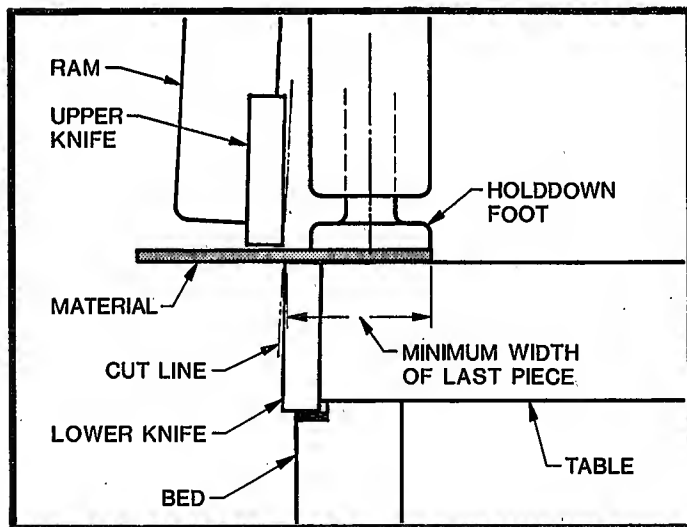

FIGURE 13
2. All CINCINNATI Shears are equipped with hydraulic holddowns which clamp the material being sheared to prevent movement or "tip-up" during shear. We recommend that the material be clamped by as many holddowns as possible, at least two or more. The minimum width of material on the table should be such that it will be clamped by the full diameter of the holddown foot. This width will be different for each size shear, and should be equal to or greater than the distance from the cutting edge of the lower knife to the outer edge of the holddown foot. See Figure 13.